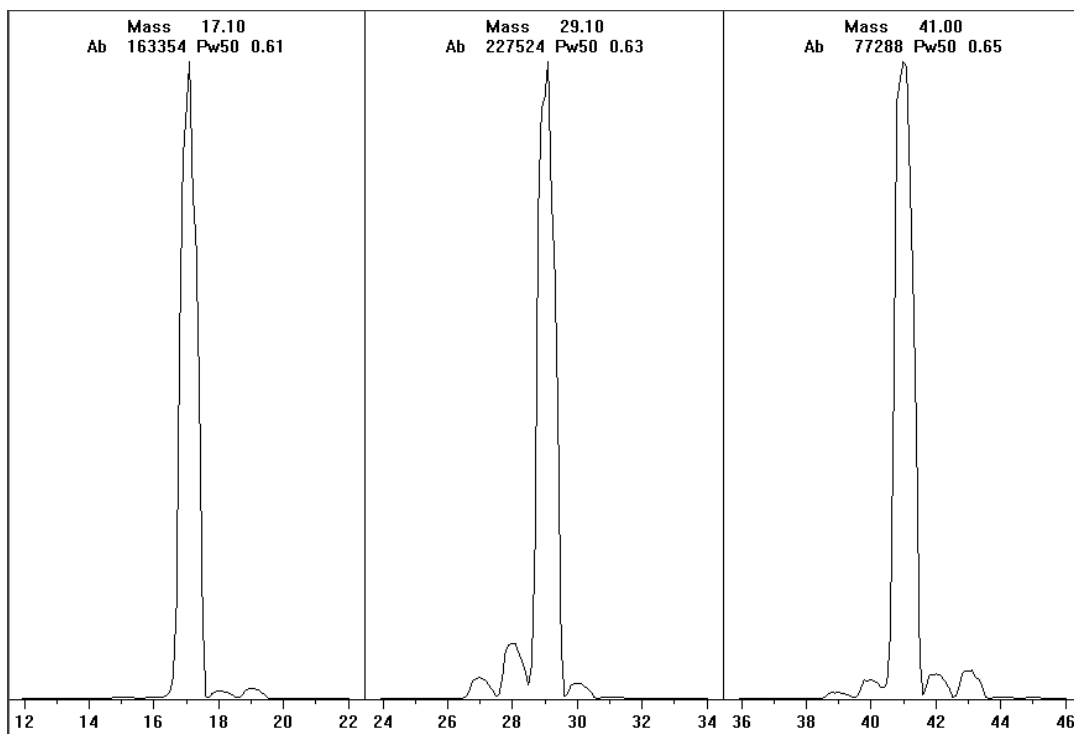

Figure 42. Reagent ion scans after a very long bake out
- 8 Examine the displayed profile scan of the reagent ions. (See Figure 42.)